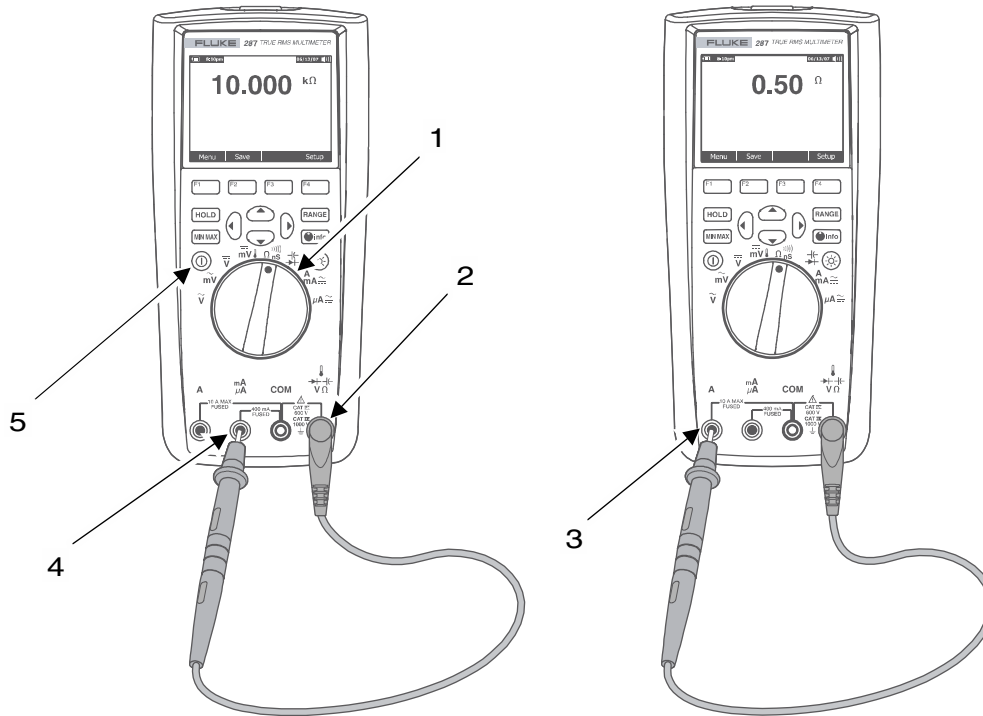

Figure 20. Fuse Test Points
1. Position the rotary switch (Figure 20., Item 1) to the ohms (Ω) position.
2. Insert a test lead into the volts/resistance terminal (Figure 20., Item 2).
3. Press the On/Off button (Figure 20., Item 5) to turn the multimeter on.
4. Insert the test lead tip into the 400 mA/FUSED terminal (Figure 20., Item 4). Ensure that the test lead tip is touching the multimeter terminal. Note resistance reading.
6. Insert the test lead tip into the 10 A MAX/FUSED terminal (Figure 20., Item 3). Ensure that the test lead tip is touching the multimeter terminal. Note resistance reading.